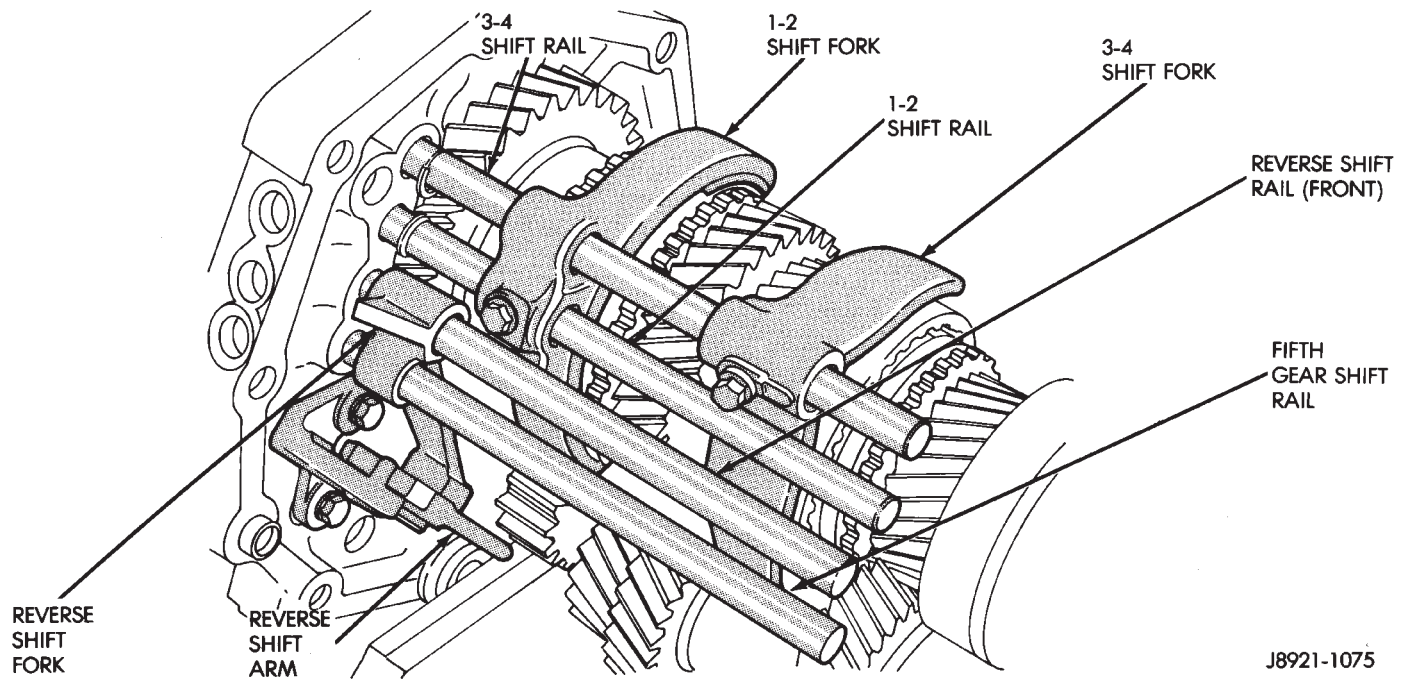

Fig. 67 Shift Rail Identification
(19) Remove the fifth gear shift rail (Fig. 67).